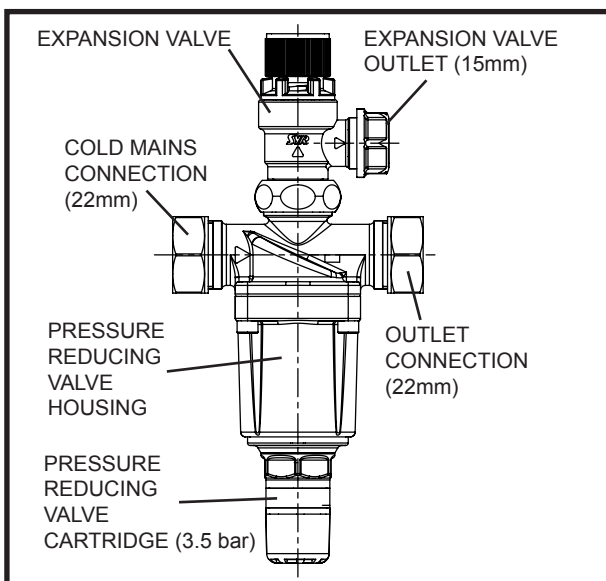

FIG. 1 Cold Water Combination Valve
3.3 COLD WATER COMBINATION VALVE (FIG 1)